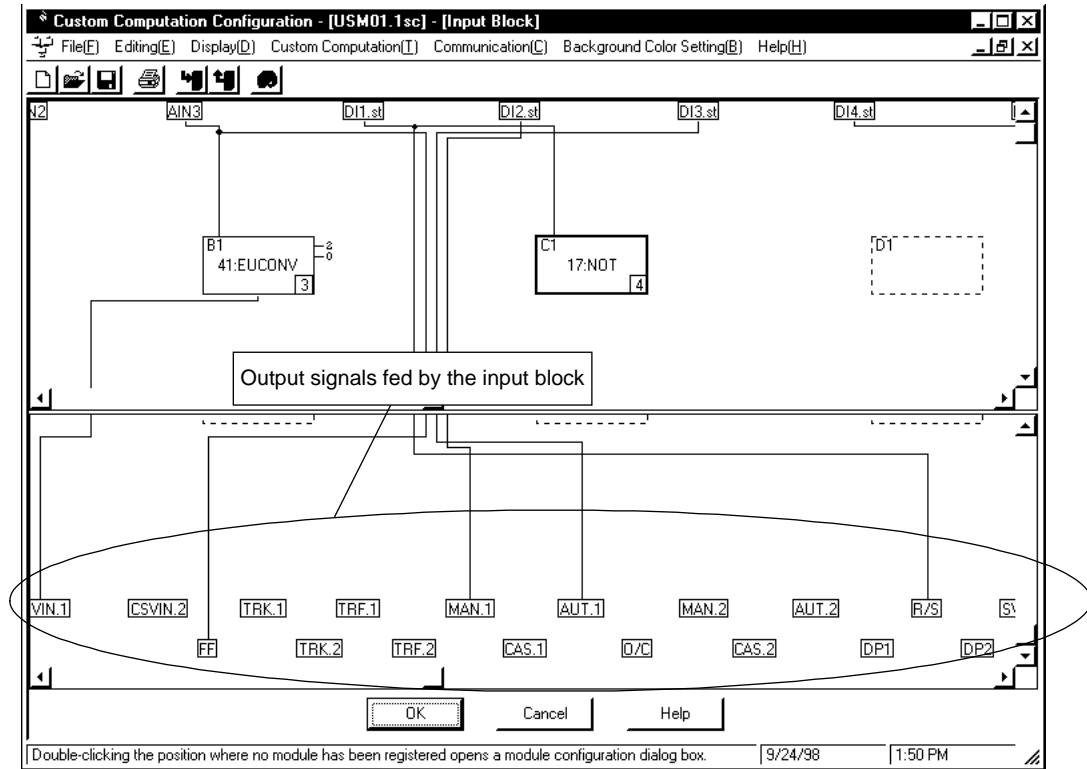

Figure 4.2.13 Output Signals Fed by the Input Block
- ① In the [Input Block] dialog box (Figure 4.2.13), click the appropriate output signal. Click <R/S> in the example shown in Figure 4.2.13.